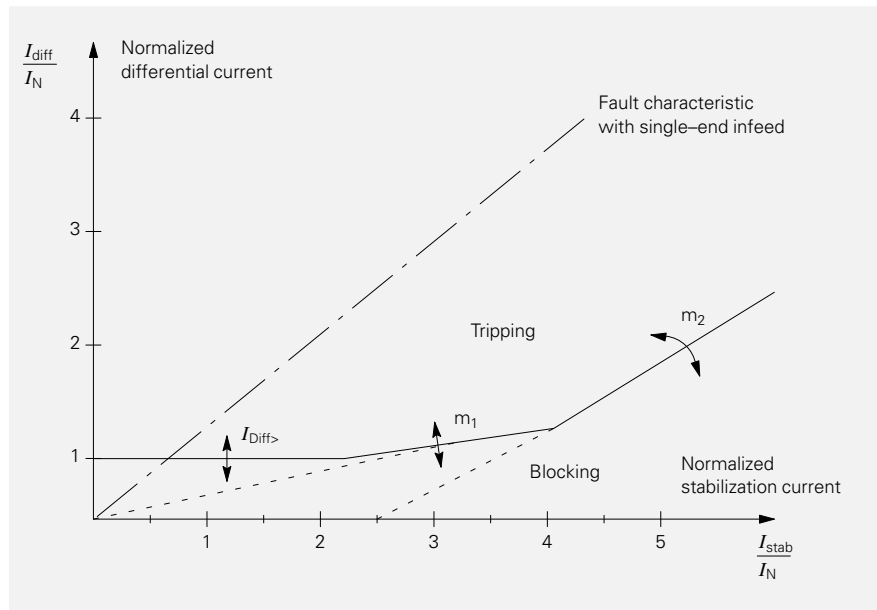

Fig. 3 7SD503 line differential protection
- Response characteristic for three-phase, balanced short-circuit current as shown in Fig. 3. The response value  $I_{Diff>}$  and the gradient of the characteristic branches are parameterizable.